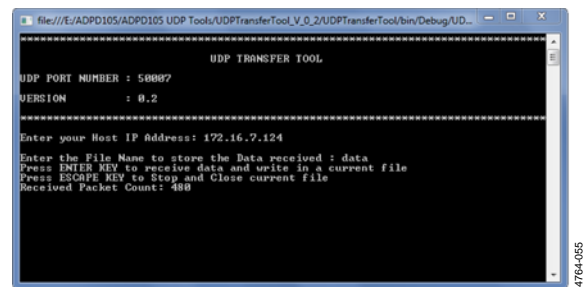

Figure 58. Receiving Raw Data
6. The received packet count is continuously displayed in the ADPD103_ADPD105 OpenMarket WaveTool tool and the raw data is stored in the file (see Figure 58).